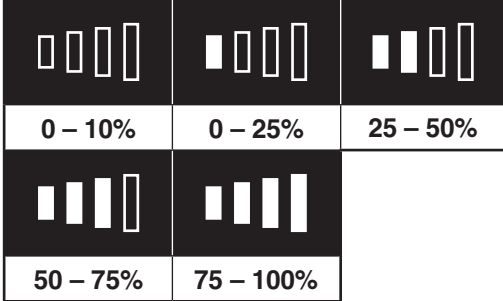

FIG. 35
9.3 BATTERY PACK CHARGE STATUS – FIG.35